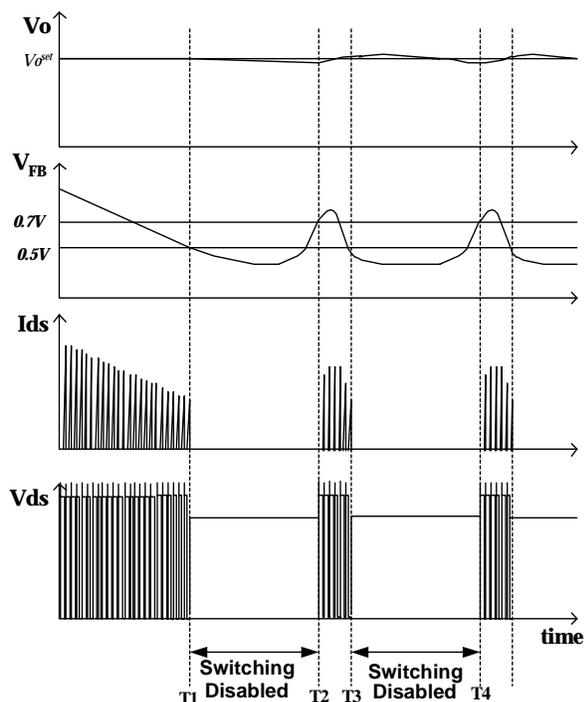

Figure 8. Waveforms of Burst Operation
**5. Burst Operation:** To minimize power dissipation in standby mode, the FSDM0465RB enters burst mode operation. As the load decreases, the feedback voltage decreases. As shown in Figure 8, the device automatically enters burst mode when the feedback voltage drops below  $V_{BURL}(500mV)$ . At this point switching stops and the output voltages start to drop at a rate dependent on the standby current load. This causes the feedback voltage to rise. Once it passes  $V_{BURH}(700mV)$ , switching resumes. The feedback voltage then falls and the process repeats. Burst mode operation alternately enables and disables switching of the power SenseFET thereby reducing switching loss in Standby mode.